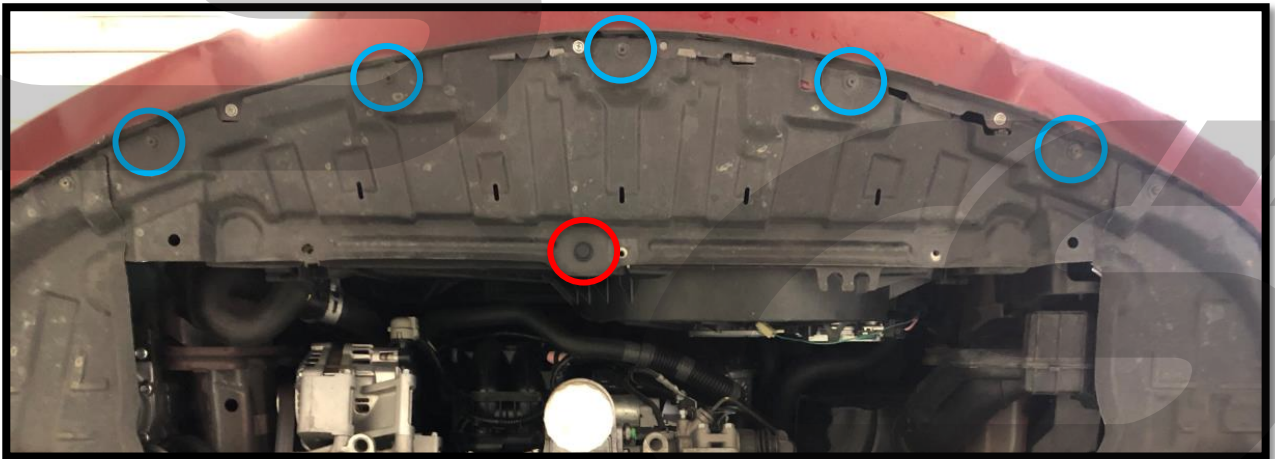

Figure 1c
- h) Remove one (1) push clip from the front section of the OEM splash shield using a flathead screwdriver or push clip removal tool. Shown **circled in red** in **Figure 1c**.
- i) Remove five (5) 8mm bolts from the front section of the OEM splash shield using an 8mm socket & ratchet. Shown **circled in blue** in **Figure 1c**.